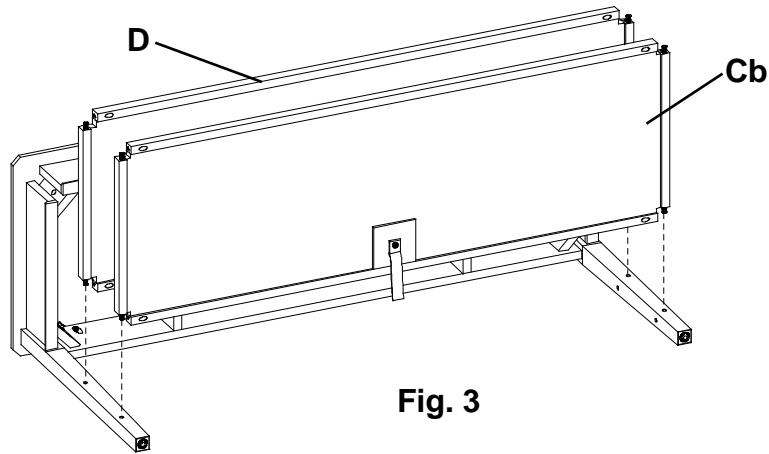

Fig. 3
3. Rotate the Top and Leg assembly so that it sets on the back legs. Turn the Lower Shelf Assembly (Cb) and the Upper Shelf Assembly (D) bottom-side-down and place the dowels into the dowel holes in the Legs. Note that the tipping restraint attached to the Lower Shelf Assembly (Cb) must be positioned to the back of the product as shown. See Figure 3.